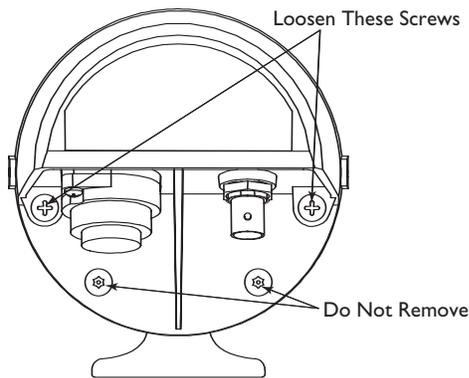

Figure 1: Loosening Captive Screws
1. Loosen the top two screws on the rear of the housing. These screws are captive and will not come out all the way. **Do not** remove the bottom two screws. See **Figure 1**.